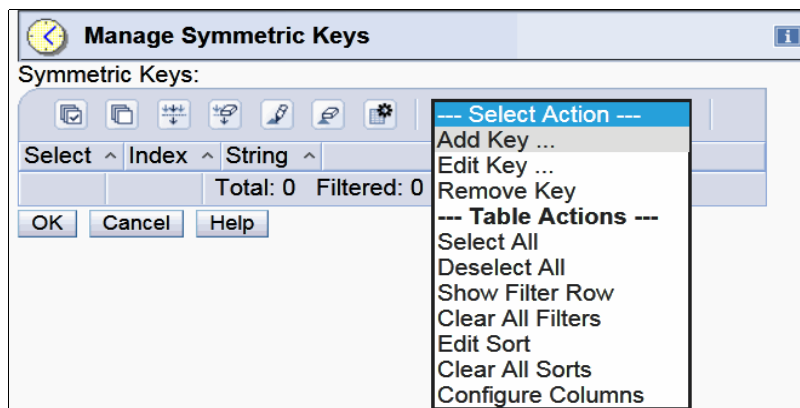

Figure 8-13 Selecting the Add Symmetric Key option
3. The Manage Symmetric Keys window opens (see Figure 8-13). Click **Select Action** → **Add Key**.